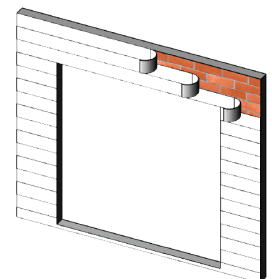

Figure 18:
4. Weather resistant building paper should be applied in a weatherboard fashion to complete the installation (Figure 18).